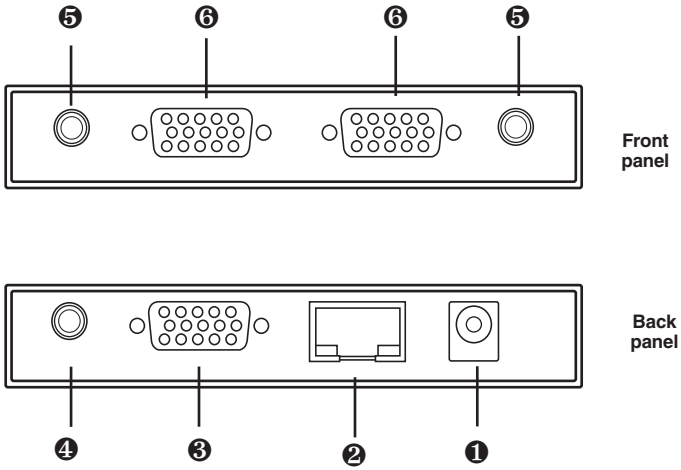
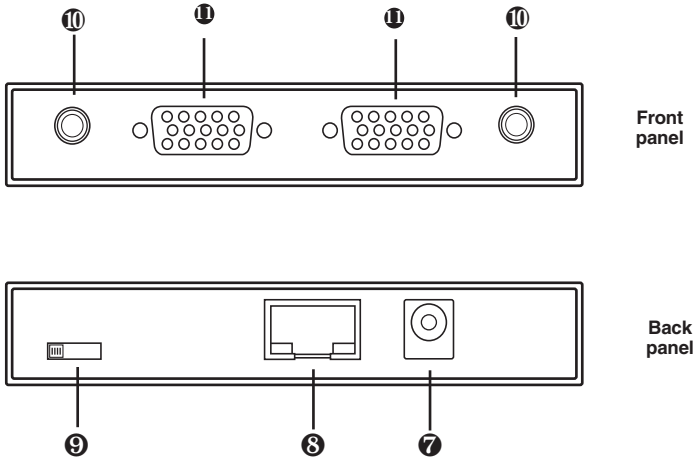

Figure 2-1. VGA Extender with Audio, local unit.
Figure 2-2. VGA Extender with Audio, remote unit.
The AC555A local and remote units are pictured in Figures 2-1 and 2-2. Tables 2-1 and 2-2 list the descriptions identified by the circled numbers in Figures 2-1 and 2-2.
You'll need one local and one remote unit (AC555A includes a 1-port local unit and a 1-port remote unit). You can also order a 4-port local unit (AC555A-4) and 1-port remote units (AC555A-REM) separately. You'll also need a VGA source such as a PC (not included), Category 5, 5e, or 6 cable (not included), and power supplies (one for each unit, included). Follow the steps listed on the next page and refer to Figures 2-1, 2-2, and 3-1 as you install the extenders.
2. Using the included VGA cable, connect the local unit's HD15 input connector (labeled ③ in Figure 2-1) to the VGA source (for example, a PC).
3. Using the monitors' cables, connect two output monitors to the local unit's HD15 output connectors (labeled ⑥ in Figure 2-1).
- Using audio cable, connect the local unit's audio input connector (labeled ④ in Figure 2-1) to the VGA source's audio connector. (This step does not apply to the AC555A and AC555A-4; they do not support audio connections.)
- Connect the local unit's two audio output connectors (labeled ⑤ in Figure 2-1) to two sets of speakers. (This step does not apply to the AC555A and AC555A-4; they do not support audio connections.)
- Using the monitors' cables, connect two output monitors to the remote unit's HD15 output connectors (labeled ① in Figure 2-2).
- Connect the remote unit's audio output connectors (labeled ⑩ in Figure 2-2) to the VGA source's audio connectors. (This step does not apply to the AC555A and AC555A-REM; they do not support audio connections.)
- Using Category 5, 5e, or 6 cable, connect the local unit's CAT5 output port (labeled ② in Figure 2-1) to the remote unit's CAT5 input port (labeled ⑧ in Figure 2-2).
- Connect each unit's power supply to its power supply connector (the local power connector is labeled ① in Figure 2-1, and the remote power connector is labeled ⑦ in Figure 2-2).
Adjust the equalizer selector switch on the remote unit (labeled ⑨ in Figure 2-2) for optimum video signals for various cable lengths. Choose from the four lengths listed in Table 4-1.